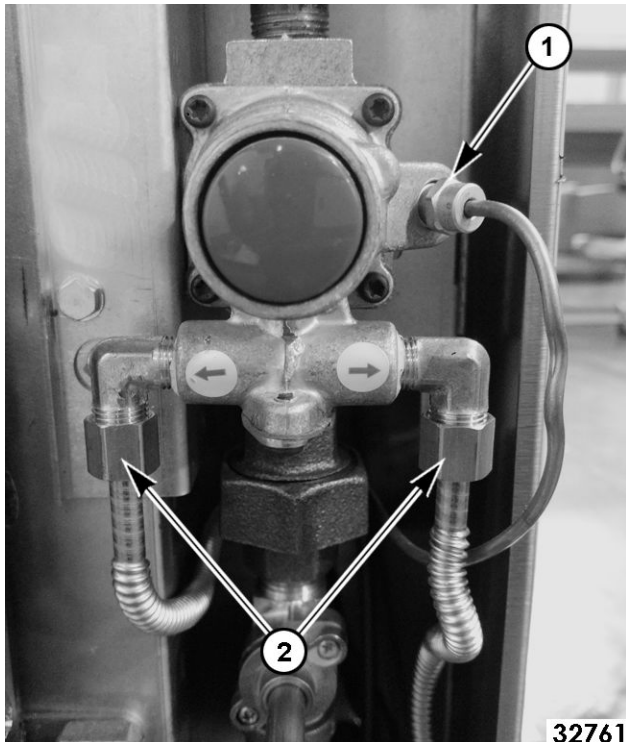

Fig. 1
3. Remove thermocouple (1, Fig. 1).
4. Disconnect flex lines (2, Fig. 1) from pilot safety valve.